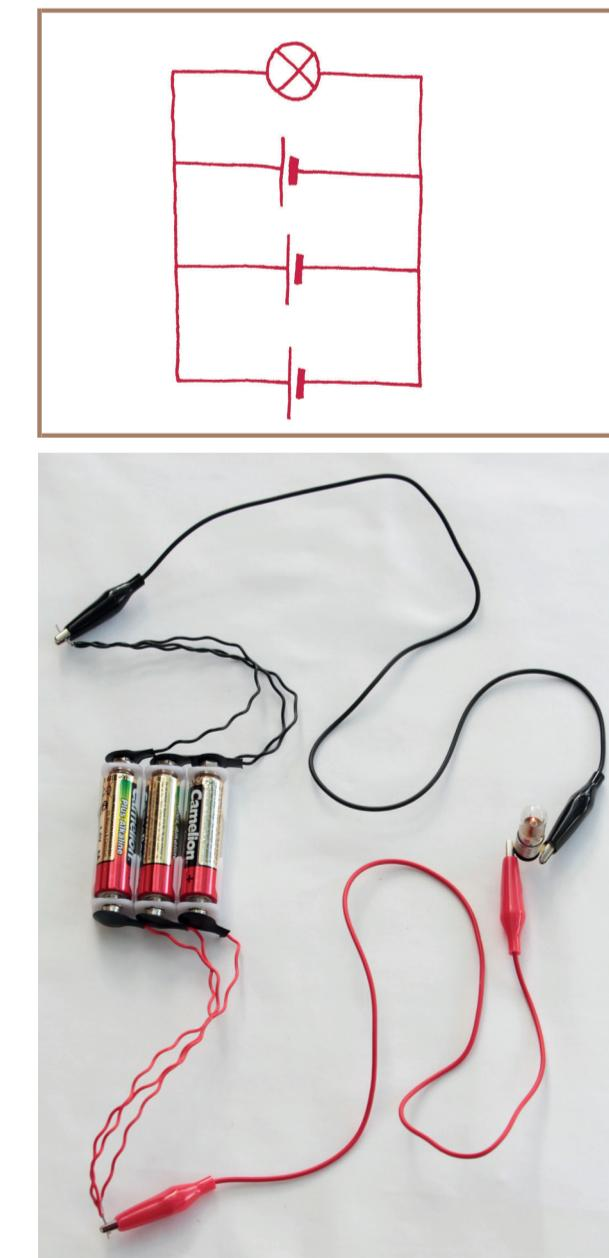

Figure 4: Three cells in parallel connected to a lamp
Figure 4 shows three cells connected in parallel in a circuit. The positive terminals of all three cells are connected to one another and to the lamp. The negative terminals of all three cells are connected to one another and to the other terminal of the lamp.
1. Draw a circuit diagram of the circuit in Figure 4.